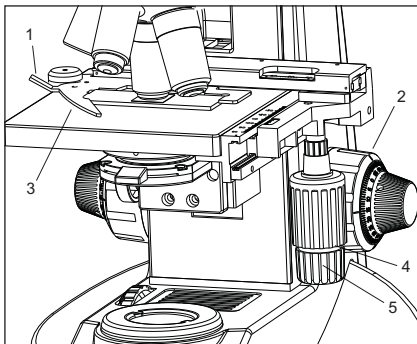

Fig. 16
**Place the specimen gently on the stage. If the bow-shaped lever (3) is returned with a strong force or the control knob (1) or the bow-shaped lever is released in the middle, the slide glass may be broken. See figure 16.**
1. Rotate the coarse adjustment knob (2) in anticlockwise direction to fully lower the stage.
2. Open the bow-shaped lever (3) outward by pulling lever handle (1), place the specimen by sliding the specimen glass plate(s) on the stage from the front toward the rear.
3. After positioning your specimen slides, return the bow-shaped lever (3) gently by slowly releasing control knob (1).
4. Rotating the upper co-axial knob controlling the Y-axis movement (4) moves the specimen in the vertical direction. Rotating the lower knob which is the X-axis movement control Knob (5) moves the specimen in the horizontal direction.